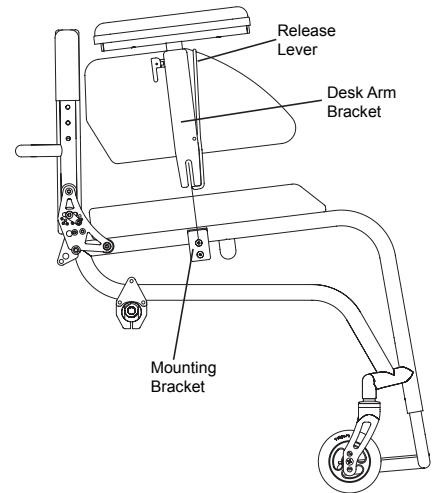

Figure 45
2. While holding the armrest release lever, lift the desk arm assembly to remove it from the mounting bracket attached to the wheelchair frame. See Figure 45.
Slide the desk arm bracket into the mounting bracket attached to the wheelchair frame. See Figure 45.